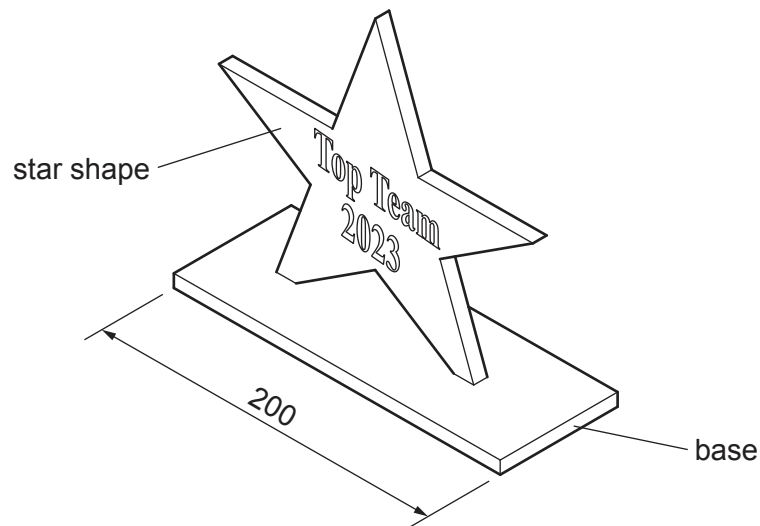

Fig. 10.1
- 10 Fig. 10.1 shows a trophy made of 5 mm thick acrylic.